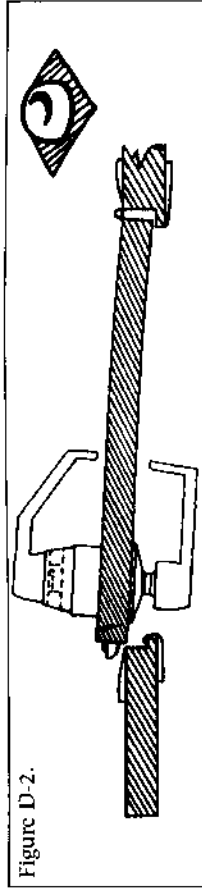

Figure D-2.
2. Standing on the door stop side of the door, check for gaps between the door and the door stop on all three sides of the frame (left, right, and top). Mark locations where the gaps are approximately $\frac{3}{16}$ " (5 mm) (see Figure D-2).